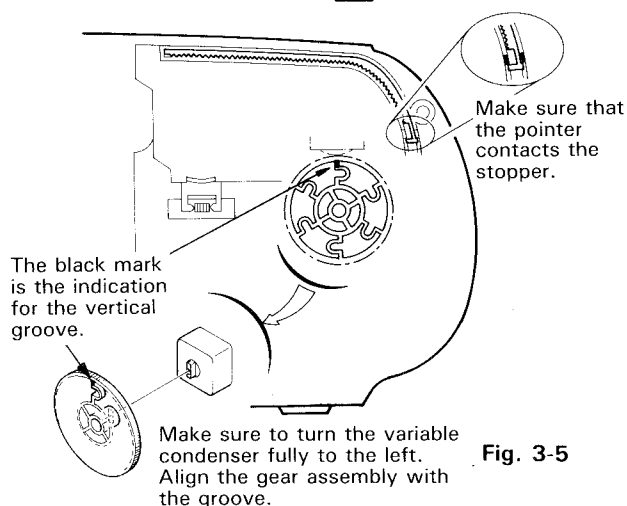

Fig. 3-5
3. Attach by aligning the grooves of the dial gear and the variable capacitor. (Fig. 3-5)